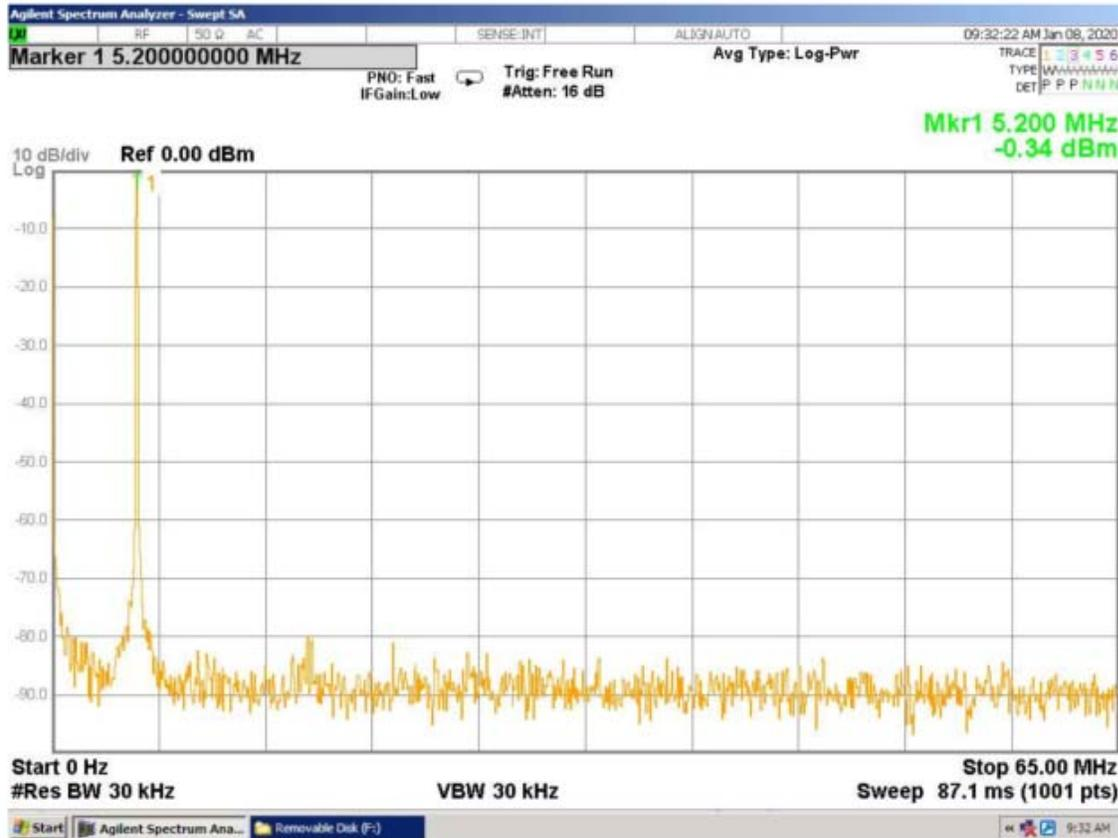

Figure 31. Spectrum Analyzer Output
Figure 31 shows the spectrum analyzer output window that appears on the spectrum analyzer hardware (see Figure 26). Ensure that the following options are set:
5. Check that the output from S3, the top left **Marker1**, is approximately 5.20000000 MHz and check that the amplitude is approximately 0 dBm, the top right text (see Figure 31).